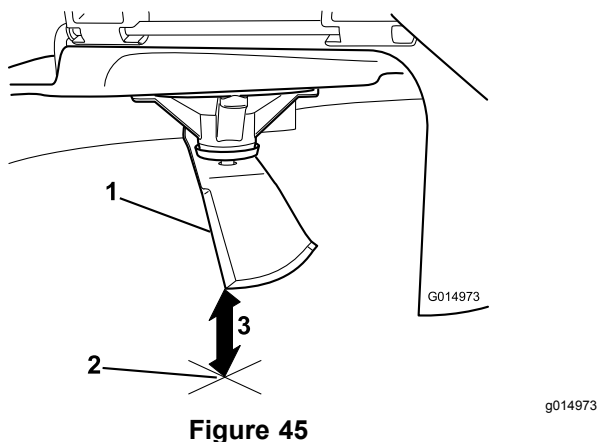

**Figure 44**
3. Measured distance between blade and the surface (A)
4. Rotate the same blade 180 degrees, so that the opposing cutting edge is now in the same position (Figure 44).